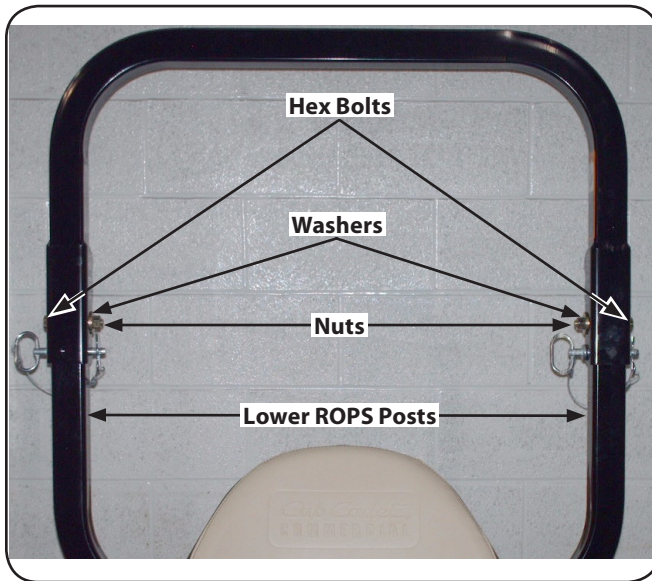

Figure 3-3
4. Install the upper ROPS section onto the lower ROPS "posts". Install the (½-13 x 3.25) HHCS bolts, nuts and washers. See Fig. 3-3.